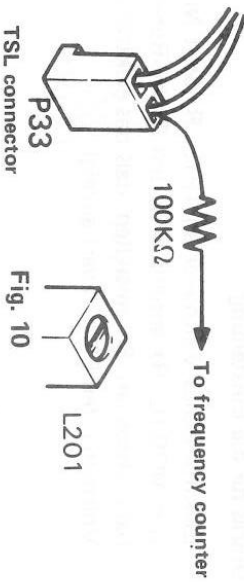

Fig. 10
- 1) Move the tape select switch to the METAL position and insert a measuring rod into the pin of connector (P33) for erasure head as shown in Fig. 10.